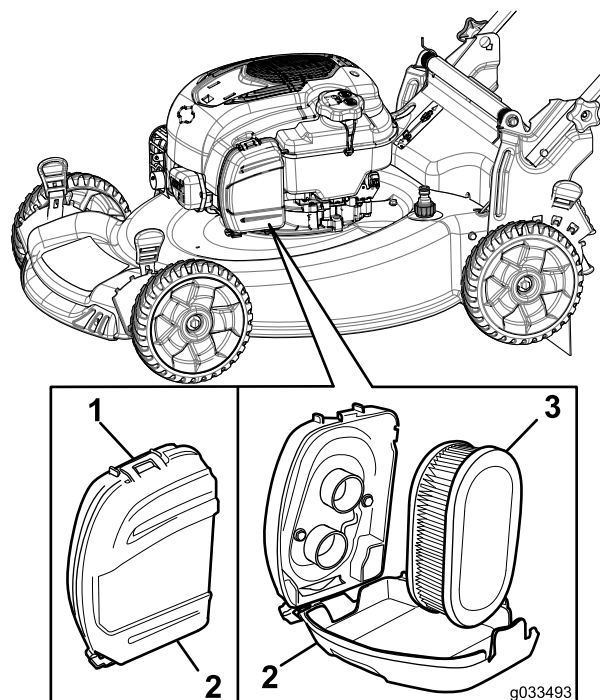

Figure 26
1. Unclip the top of the air-filter cover (Figure 26).
2. Remove the air filter (Figure 26).